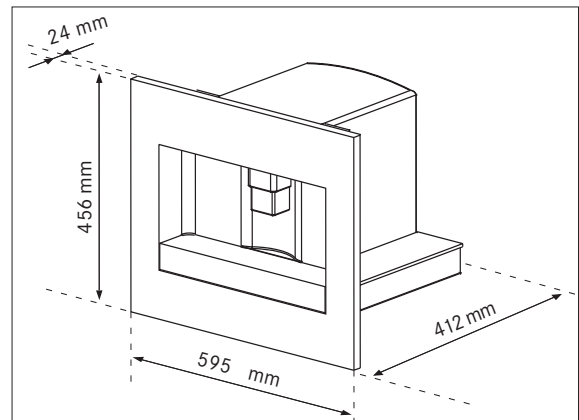

Fig. 1
- ▶ Verify the minimum measurements required for correct installation of the appliance (Figure 1, 2 and 3).